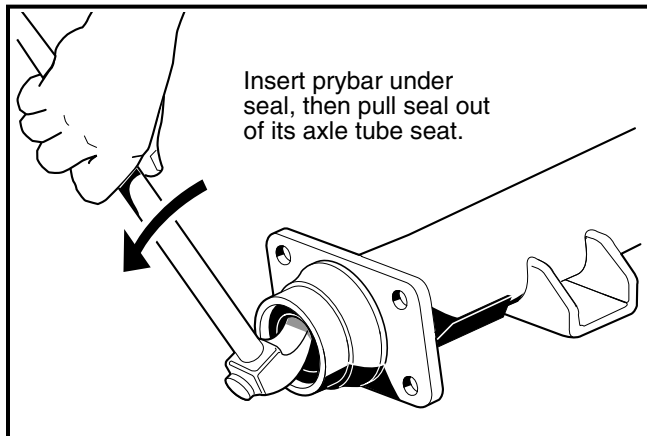

Figure 16b-8 Seal Lip
10. Inspect the axle shaft assembly to be sure the bearing (86) and collar (87) have not slipped and the bearing is still seated against the shoulder on the axle shaft (**Figure 16b-9, Page 16b-7**).